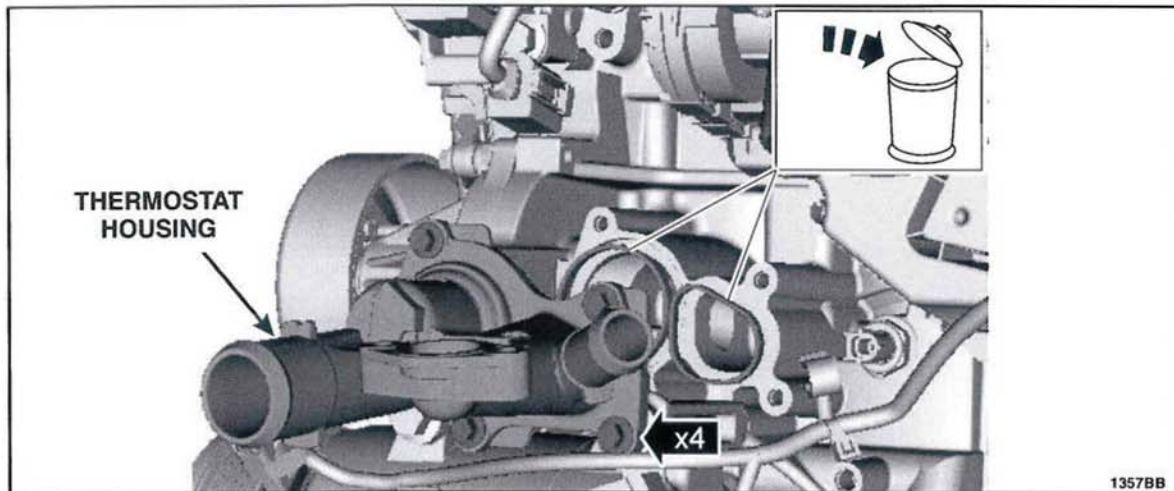

FIGURE H1
See Figure H1.
6. Install *new* thermostat housing gaskets and position the thermostat housing onto the engine. Install the four bolts. See Figure H1.